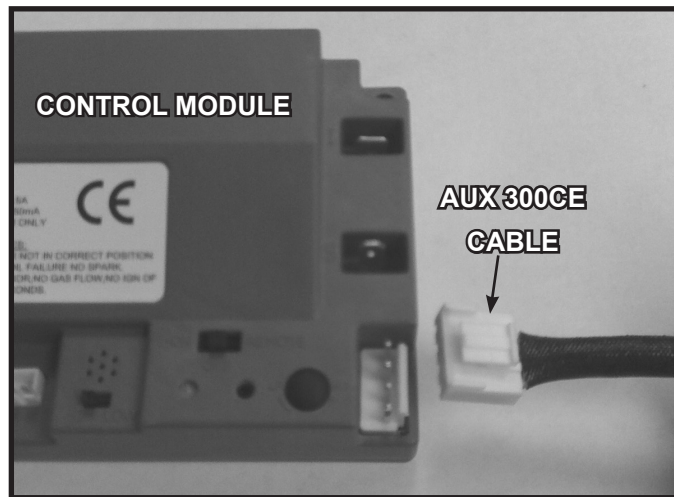

Figure 3.11 AUX 300 Module Installation
- Insert the 4 hole harness from the AUX300CE module into the 4 pin plug on the control module. See Figure 3.11.